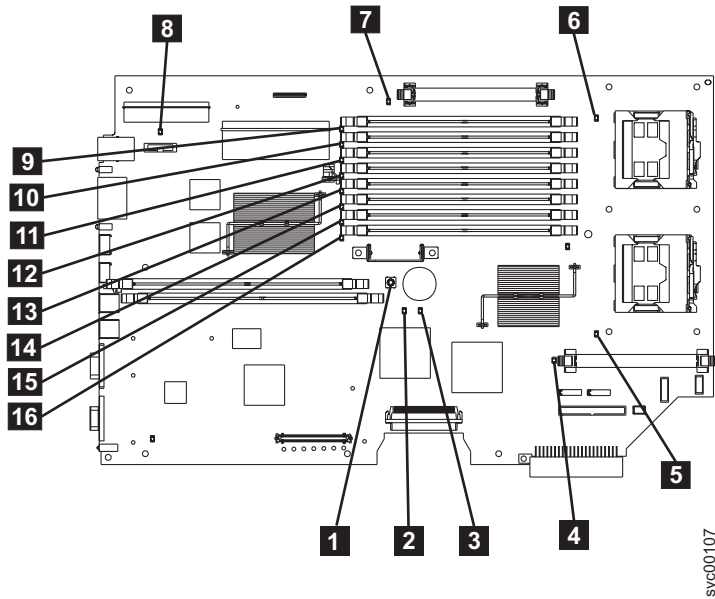

Figure 102. SAN Volume Controller 2145-8F2 and SAN Volume Controller 2145-8F4 system board LEDs
YES See Table 63 on page 294 and perform the action specified for the specific light path diagnostics LEDs, then go to step 3 on page 296. Some actions will require that you observe the state of LEDs on the system board or on the fan backplanes. The location of the system board LEDs are shown in Figure 102 on page 294. The fan LEDs are located adjacent to each FAN. To view the LEDs you will need to do the following:
- d. Press the light path diagnostics button **1**. See Figure 102 on page 294.